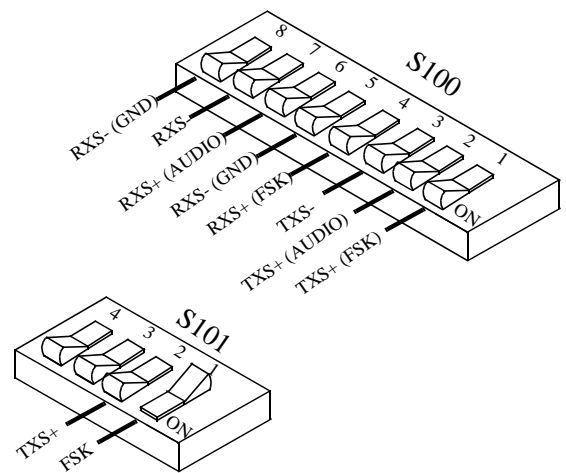

Figure 7-15 SWITCH SETTINGS
- Set MAC S100, all Sections OFF; S101 Sections 2, 3, 4 OFF; 1 ON (see Figure 7-15).
1. Set MAC S100 Sections 1, 4, 5, 8 OFF; 2, 3, 6, 7 ON; S101 Sections 2, 3, 4 OFF; 1 ON (see Figure 7-15).
1. Set MAC S100, all Sections OFF; S101 Sections 2, 3, 4 OFF; 1 ON (see Figure 7-15).